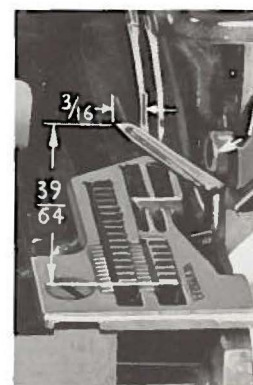

Fig. 10
Next, turn the handwheel until upper looper is at the left end of its travel. Check dimensions of upper looper point with respect to the left needle and throat plate (Fig. 10). If resetting is necessary, do it by moving the upper looper holder (A, Fig. 10). Figure 10 represents the correct dimensional setting.
If it becomes necessary to move looper thread pull-off (AF), be sure to take up all end play in needle drive shaft before tightening. If upper looper is located so that it is higher over throat plate than recommended in (Fig. 10), the purl will tend to form near top edge. If upper looper is too low, the purl will form nearer bottom edge.